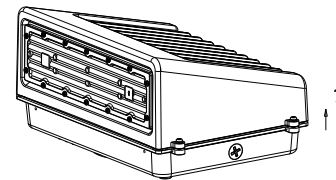

Fig. 1-1A
1. Take out the light, and loosen the screws on the cover and take apart the fixture by the screwdriver. Pull off the quick connect terminal vigorously. (Fig. 1-1A&B)